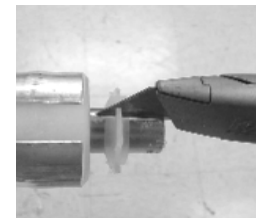

Figure 4
- 4) **Remove disc remnants** from center conductor using razor knife (Figure 4). **De-burr center conductor** with file. **Remove adhesive** with 3M Scotchbrite™ pad. (Tools required: Razor Knife, File, and 3M Scotchbrite™ Pad)